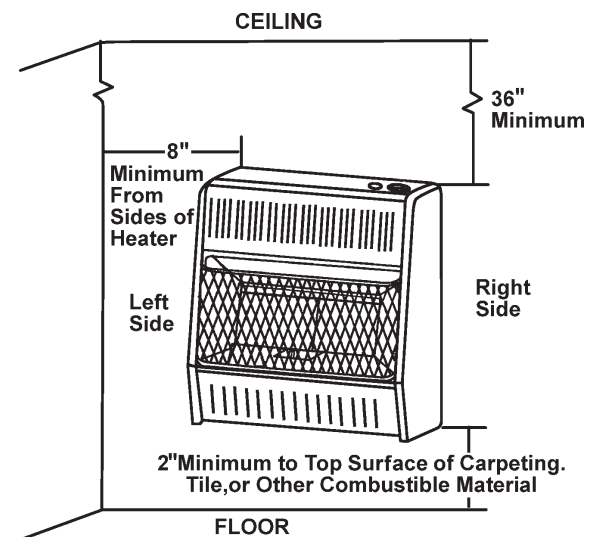

Figure 4 - Mounting clearances as viewed from front of heater (inches)
**WARNING:** Maintain the minimum clearances shown in Figure 4. If you can, provide greater clearances from floor, ceiling, and joining wall.
**WARNING:** Maintain minimum clearances shown in Figure 4. If you can, provide greater clearances from floor and adjoining wall.